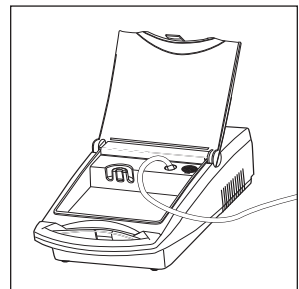

Figure 2
5. Connect one end of the nebulizer tubing to the compressor air-outlet connector (**Fig. 2 or 3**).